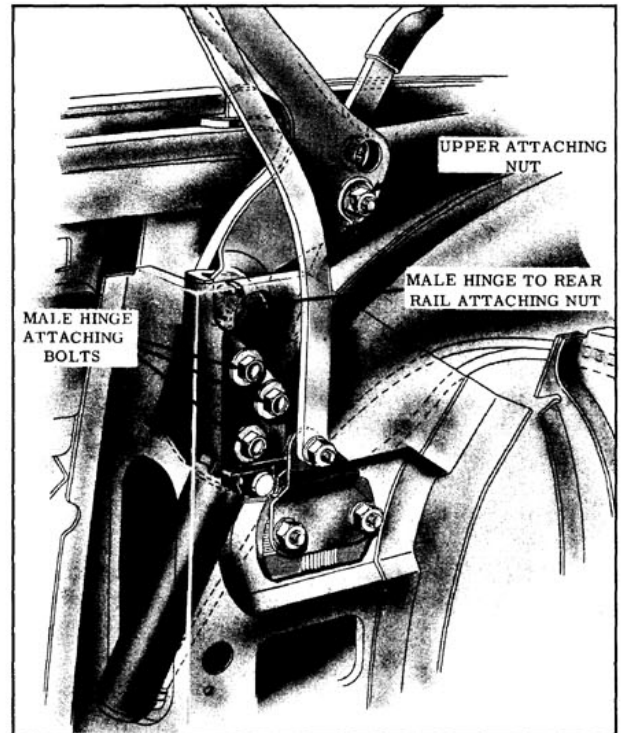

Fig. 16-161 Lift Cylinder Removal
6. Remove attaching nut, bolt, bushing and washer from upper end of lift cylinder. (Fig. 16-161)
7. Remove side roof rear rail to male hinge attaching nut and bolt. (Fig. 16-161)
8. Mark location of male hinge attaching bolt washers on folding top compartment brace; then remove folding top male hinge attaching bolts (Fig. 16-161)